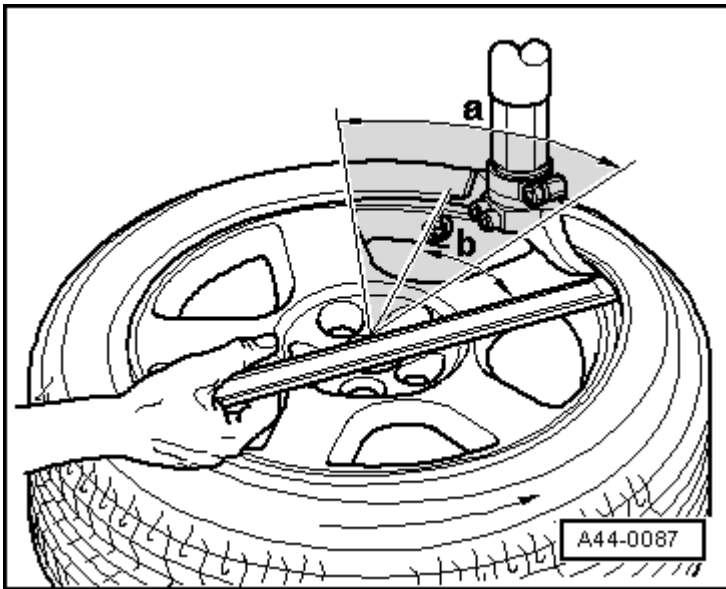

Fig. 58: Dismounting Tire
- Remove the tires, refer to **Fig. 58**.
- When changing a tire, replace the valve insert -item 2- **TIRE PRESSURE MONITORING SYSTEM, DIRECT SYSTEM**.